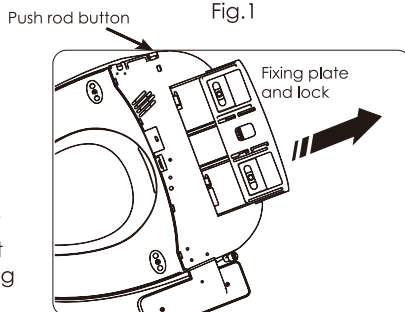

Fig.2
2). Press the push rod button on the side of the body, and remove the fixing plate and fixing plate lock from the rear of iBIDET body (Fig.2).